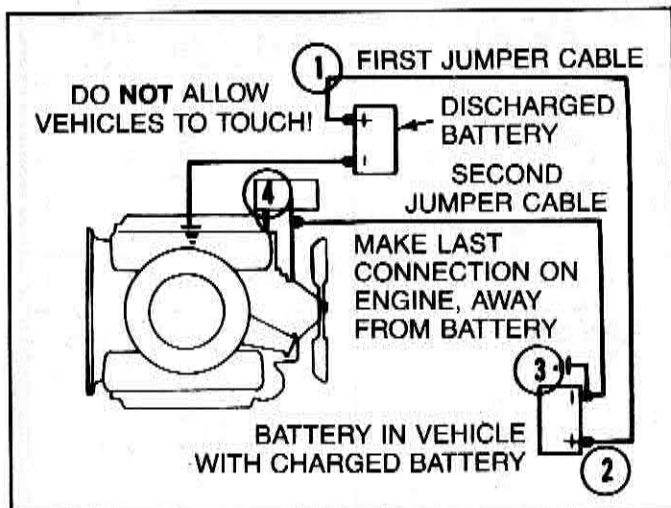

Figure 7-32 — Jump Start Cable Connections
4. Attach the end of one jumper cable to the positive terminal of the booster battery and the other end of the same cable to the positive terminal of the discharged battery (Figure 7-32). Do not permit vehicles to touch each other as this could cause a ground connection and counteract the benefits of this procedure.